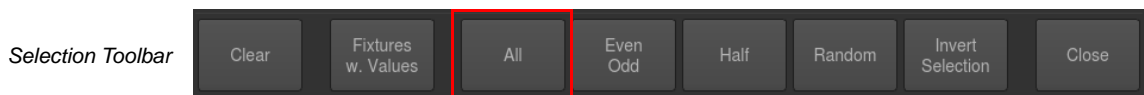

Figure 114: Selection Toolbar - All Fixtures Selection
- Step 3. Press the All button on the selection toolbar as shown in Figure 114 on page 66. The console will now select all fixtures of your "memorized" fixture selection.